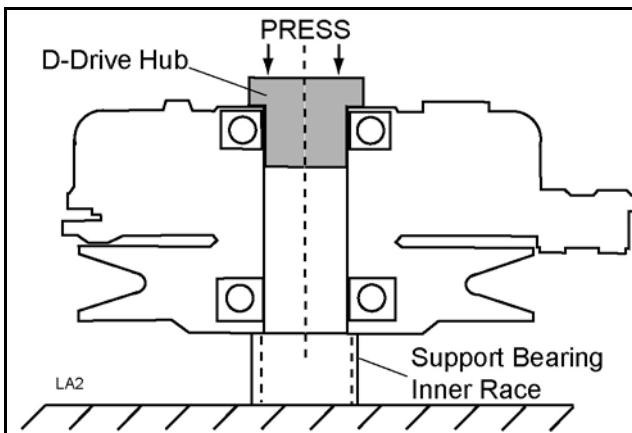

Figure 15. D-Drive Hub Installed
2. For FZ23B Only: Align keyway of new D-Drive hub (45) with key of clutch and press into front of clutch. See Figure 15 and Figure 16.